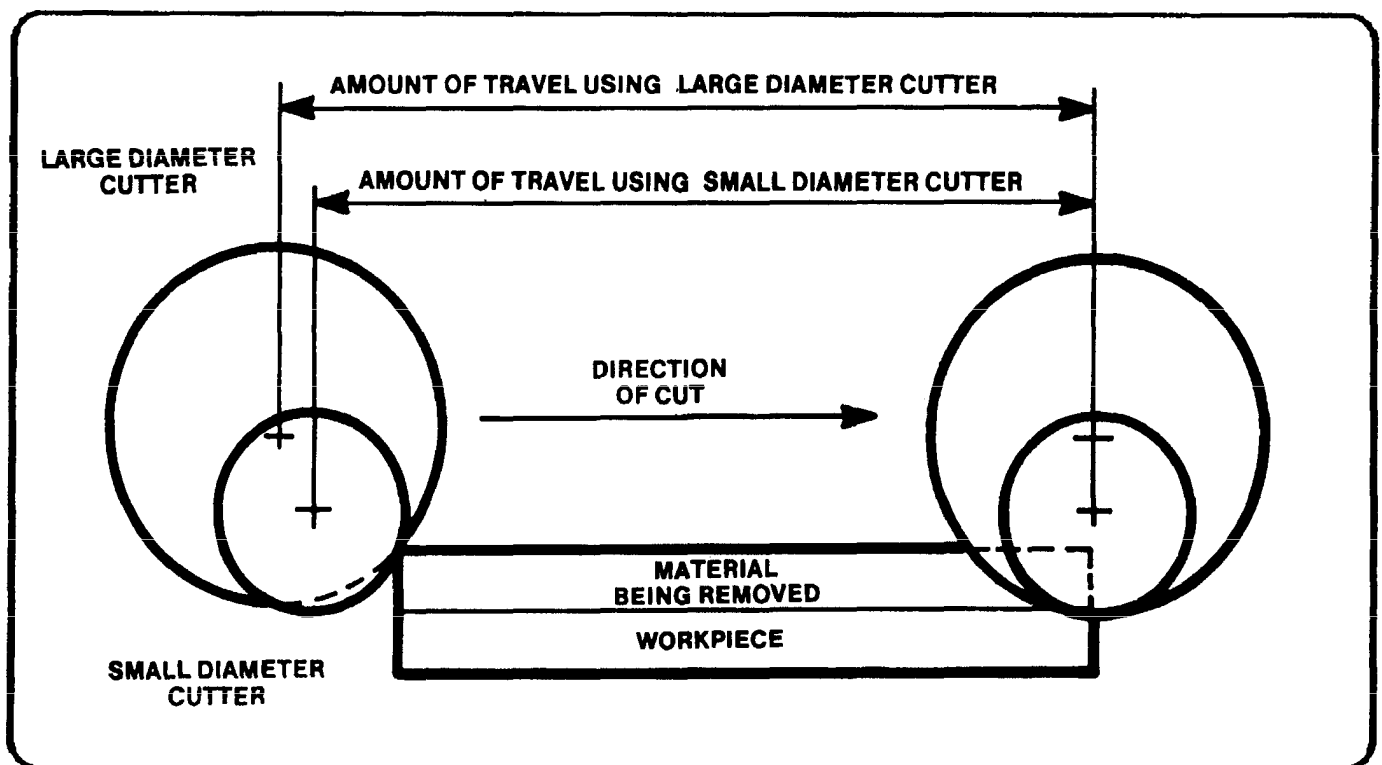

Figure 8-9. Effect of milling cutter diameter on workpiece travel.
- In selecting a milling cutter for a particular job, choose one large enough to span the entire work surface so the job can be done with a single pass. If this cannot be done, remember that a small diameter cutter will pass over a surface in a shorter time than a large diameter cutter which is fed at the same speed. This fact is illustrated in Figure 8-9.